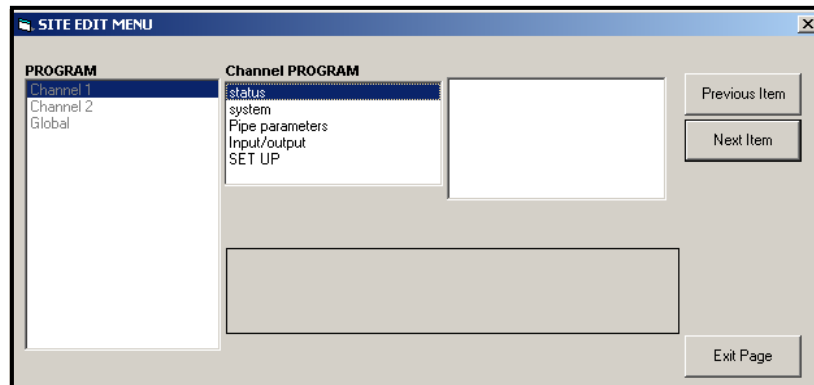

Figure 42: The *Site Edit Menu* Window
3. To enter data into the user program, double-click on the *Site Edit Menu*. The window appears similar to *Figure 42*.
4. To enter a particular menu (Channel 1, Channel 2, or Global), highlight and double-click on the desired menu in the left pane. For example, clicking on Channel 1 in *Figure 42* opens the list of options shown in the center pane.
3. Double-click on the desired option. PanaView returns to the Channel menu shown in *Figure 42 on page 90*. Proceed to the System option.
- If you have activated neither option, PanaView returns to the Channel PROGRAM window shown in *Figure 42* on *page 90*. Proceed to the Pipe option.
- If you have not enabled the option, PanaView returns to the Channel PROGRAM window shown in *Figure 42 on page 90*. Proceed to the Pipe option.